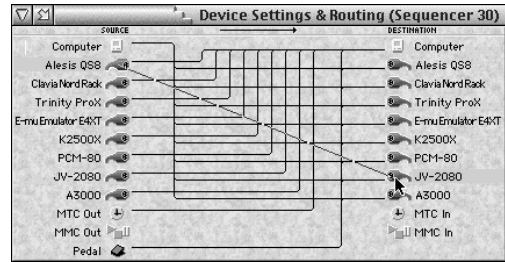

Figure 7-3: Routing MIDI data from one piece of gear to another.
- 1 Click the source cable icon on the left and drag to the destination cable icon on the right as shown below in Figure 7-3.